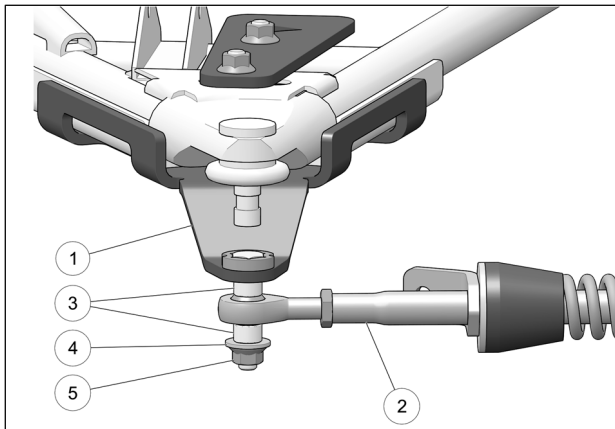

Fig. 14
8. Attach stabilizing rod (2) to anchor bracket (1), using the two spacer bushings (3), flat washer (4) and nut (5). Torque to 70 N•m [52 lb•ft]. See Fig. 14